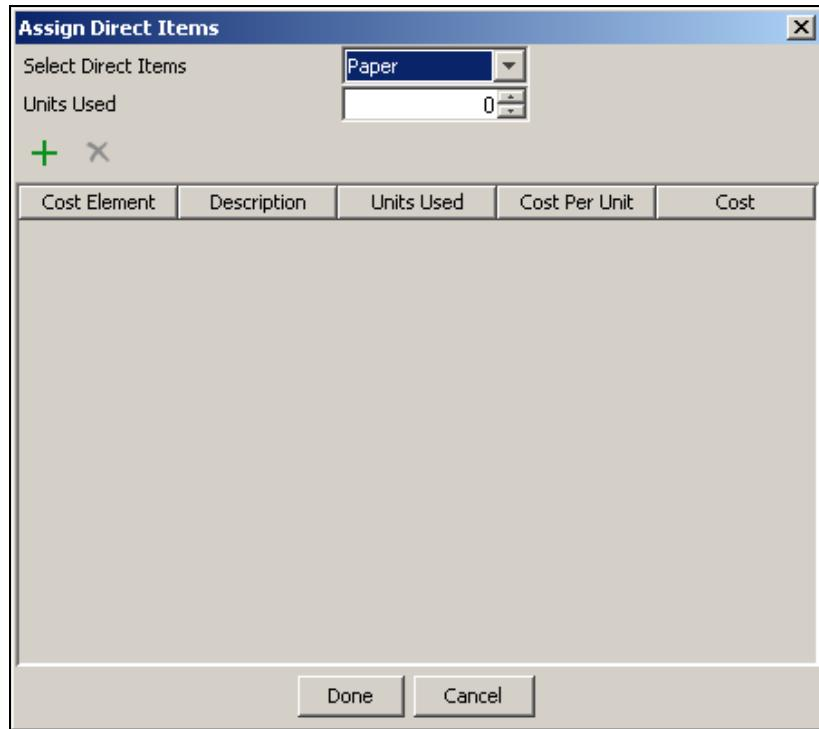

Figure 11: Assign Direct Resource
1. To assign the direct resource used by the activity, click **Assign** in *Value* column of the *Assign Direct Items* property. The Assign Direct Items dialog box appears (see Figure 11).